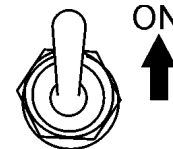

Figure 27. Idle Control switch (OFF)
- Place idle control switch (Figure 27) in the **ON** position.